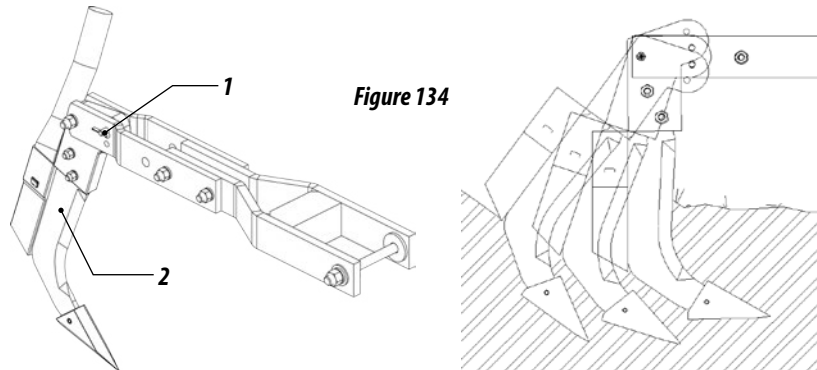

Figure 134
44 - The furrower has two working positions. For this adjustment, remove the pin (1), move the furrower (2) to the hole of the desired position and replace the pin (1), figures 134.